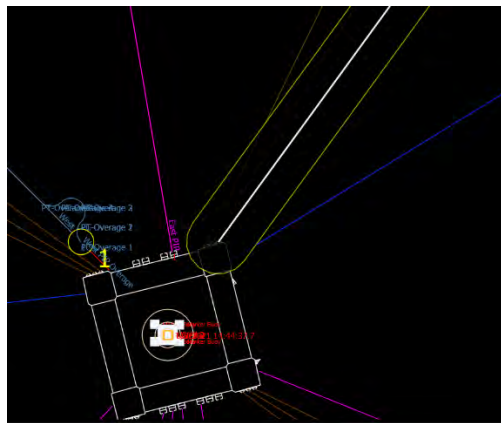

FIGURE 19-21 DYNAMIC LINE REGION – MAP VIEW
- b. The image below shows a 50ft region around an anchor line. This shape will continuously update and move with the platform (see Figure 19-21)